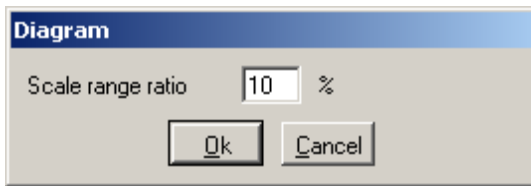

Fig. 4-123 Diagram scaling window
- The **Diagram** scaling window (see Fig. 4-123) is opened.